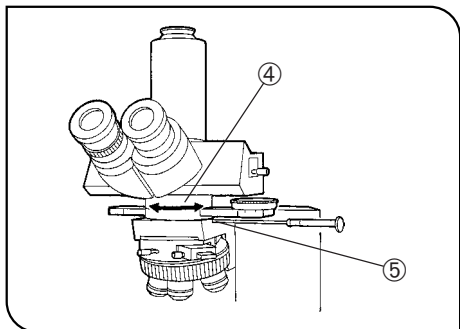

Fig. 20
4. Slightly loosen the intermediate adapter clamping screw ④. (Fig. 20)
5. While observing the field of view, rotate the intermediate attachment for AN360P (U-OPA) ④ until complete extinction is obtained. At this point, tighten the intermediate attachment clamping screw ⑤. (Fig. 20)